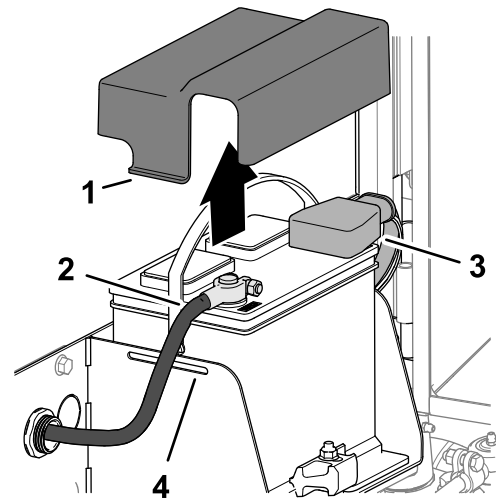

Figure 127
3. Press the sides of the battery cover, and remove the cover from the battery tray (Figure 127).